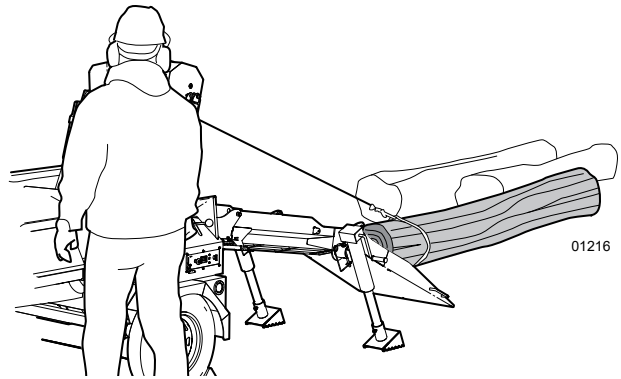

Fig. 34—Winch the first log to the machine
1. Winch the first log to the machine. Make sure the log does not catch on the front edge of the lead-in chute. See *Fig. 34*.